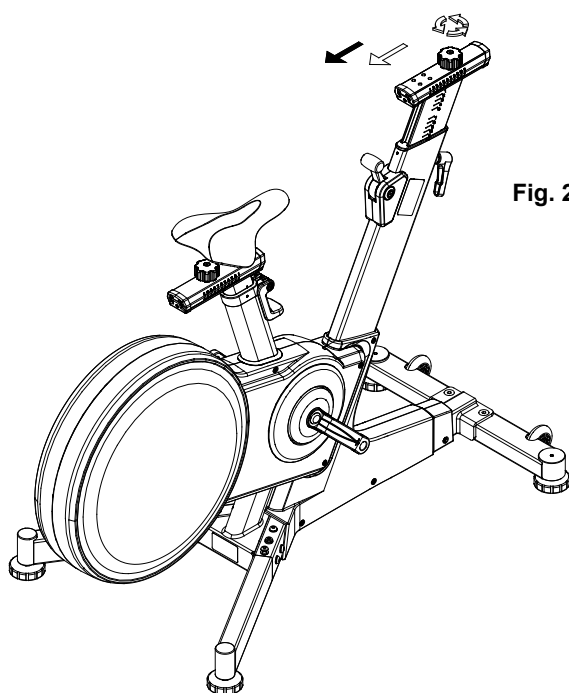

Fig. 2
Loosen knob (59) and slide the carriage of the horizontal handlebar to adjustment backwards towards the seat (Fig. 2 & 3).